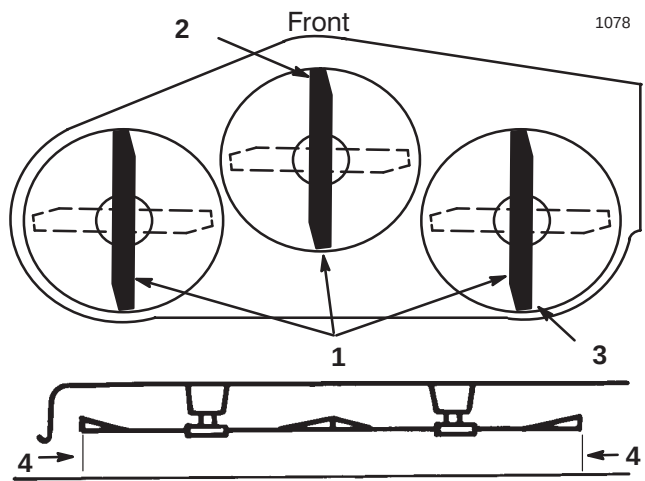

Figure 40
5. Set the height-of-cut at 3 in. (76 mm) and carefully rotate the blades so they are facing front to rear (Fig. 40).
6. Measure between the tip of the front blade (Fig. 40) and the tip of the rear blade to the flat surface. If the front blade tip is not 1/16–5/16 in. (1.6–7.9 mm) lower than the rear blade tip, adjust the front trunnion rods.
9. After adjusting both trunnion rod yokes evenly, secure the yokes with the hairpin coppers. Check the front-to-rear level again. Continue adjusting the yokes until the front blade tip is 1/16–5/16 in. (1.6–7.9 mm) lower than the rear blade tip (Fig. 40).